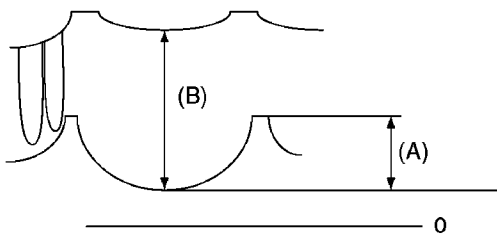

Fig. 3
6. Adjust V-PARA (Service mode1) so that waveform (A) is  $380V \pm 20V$ . (Fig. 3)
7. Adjust H-PARA (Service mode1) so that waveform (B) is  $560V \pm 40V$ . (Fig. 3)